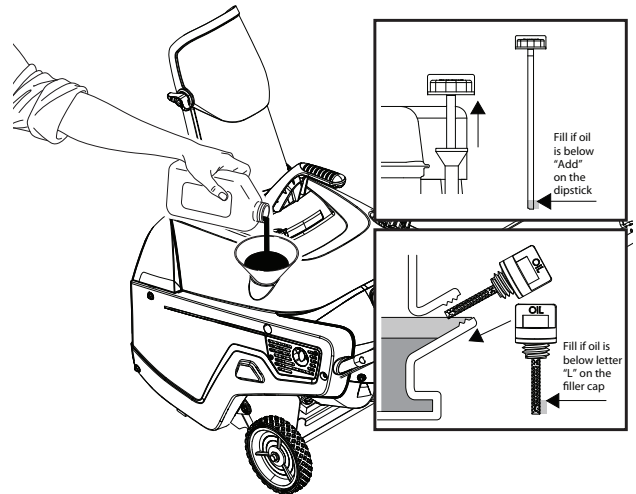

Figure 26
9. With the snowthrower in the operating position, carefully pour oil into the oil fill hole until "Full" on the fill cap/dipstick line (Figure 26).